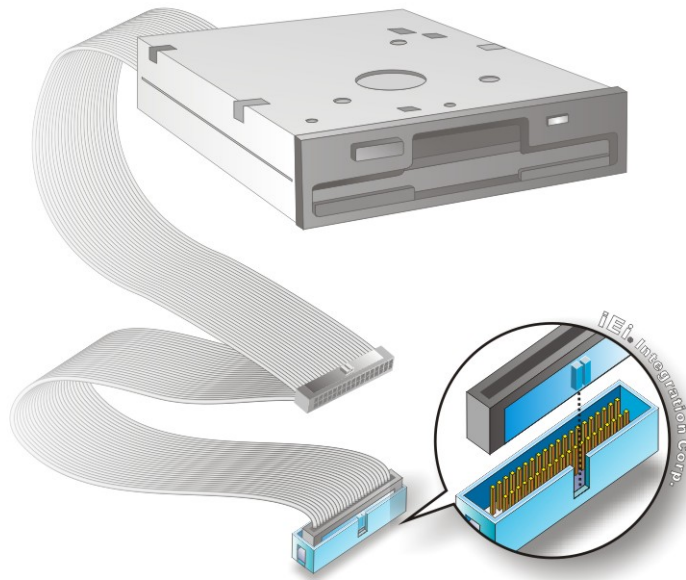

Figure 4-4: IDE Cable Connection
Step 2: **Insert the connector.** Connect the IDE cable connector to the onboard connector. See **Figure 4-4**. A key on the front of the cable connector ensures it can only be inserted in one direction.